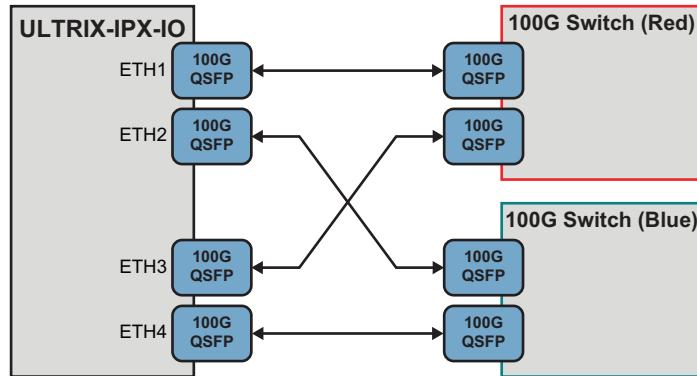

Figure 39 Workflow — QSFP to QSFP 100G Switch with Breakout
**Figure 39** shows a simplified workflow where the UTRIX-IPX-IO provides bi-directional communication via four 100G QSFP using fiber cables connected to two 100G ethernet switches.